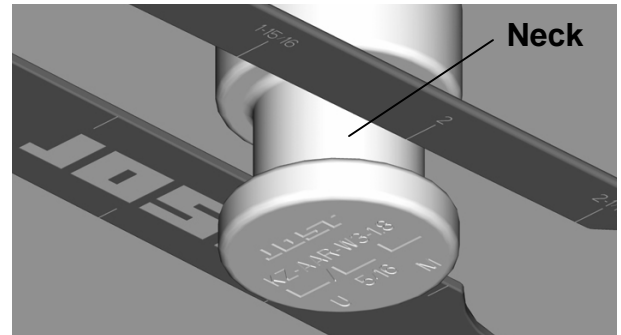

FIGURE 1
- Slide the gage toward the small end. The number stamped on the gage at the center of the Kingpin indicates the dimension (see figure 1).